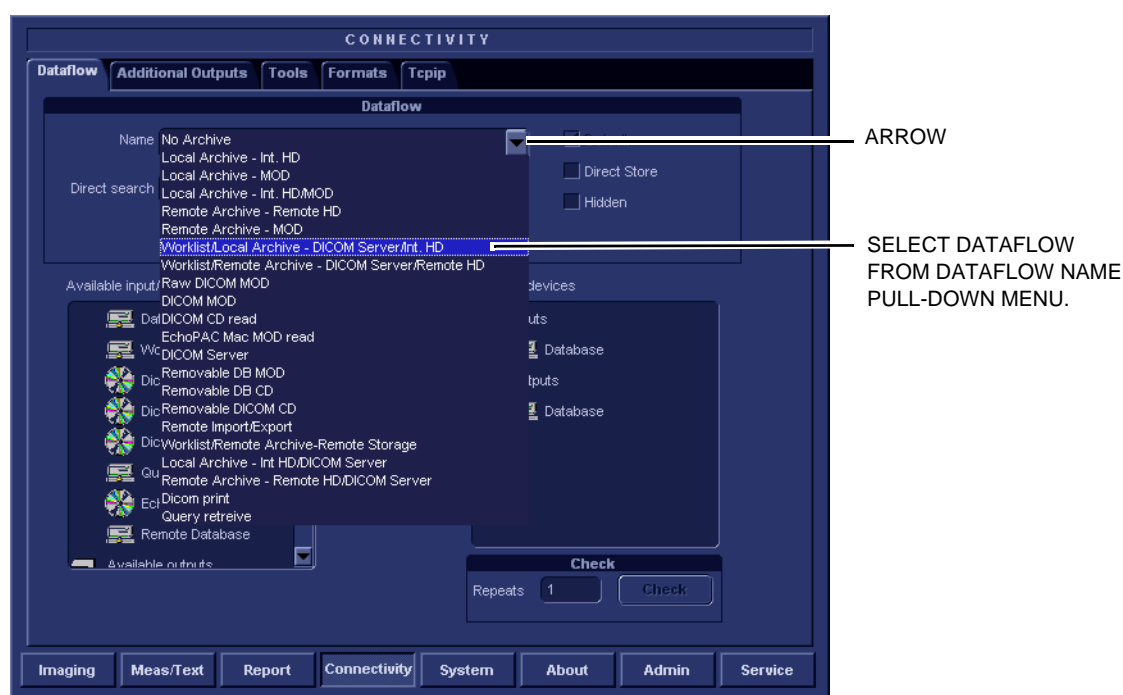

Figure 3-51 Select Dataflow
- 4.) Select the arrow to the right for the Name field to list all dataflows in a pull-down menu, see Figure 3-51.
- 5.) Select the dataflow you want to configure from the Dataflow Name pull-down list, see Figure 3-51.